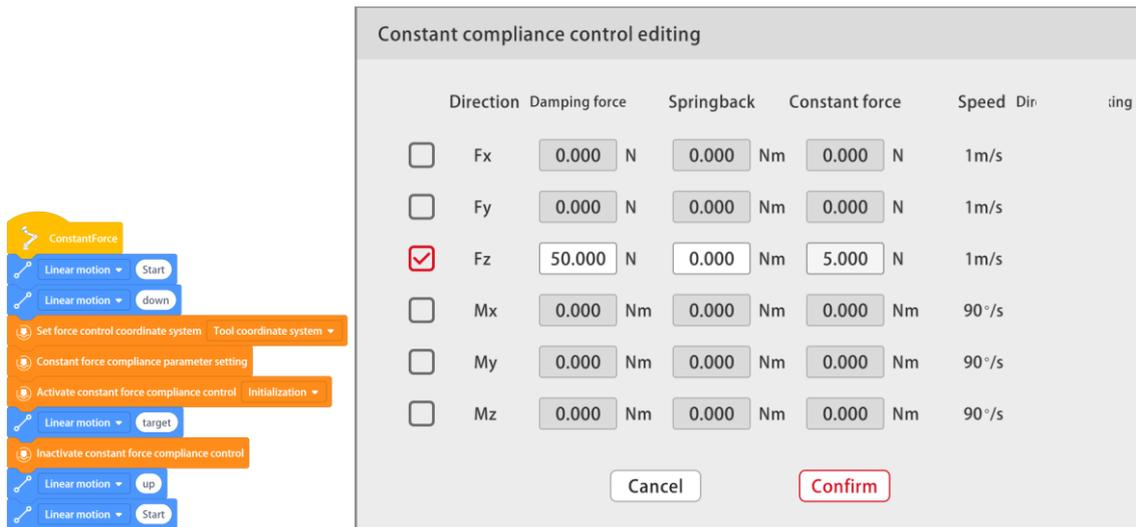

Figure 3-12 Constant Force Mode Programming of JAKA Zu Se
- b. As shown in Figure 3-12, write a program with the program blocks of [Set force control coordinate system], [Constant force compliance parameter setting], [Activate constant force compliance control] and [Inactivate constant force compliance control]. The scene for the example program in Figure 3-12 is that the robot makes a linear motion in X and Y directions (i.e., "wiping a table plane") on the XY plane (such as a horizontal desktop) while controlling the contact force (i.e., pressing force) in the Z direction. The "down" point only decreases in the Z direction compared with the "start" point, but it is still higher than the plane to be pressed to avoid contact with the plane. In addition, compared with the "down" point, the "target" point only changes in the X and Y directions, and the "up" and "target" points are set to the same point (Since the robot will automatically press the plane after the force control is turned on, its height in the Z direction will actually be lower than the position set by the target point when the motion is finished);